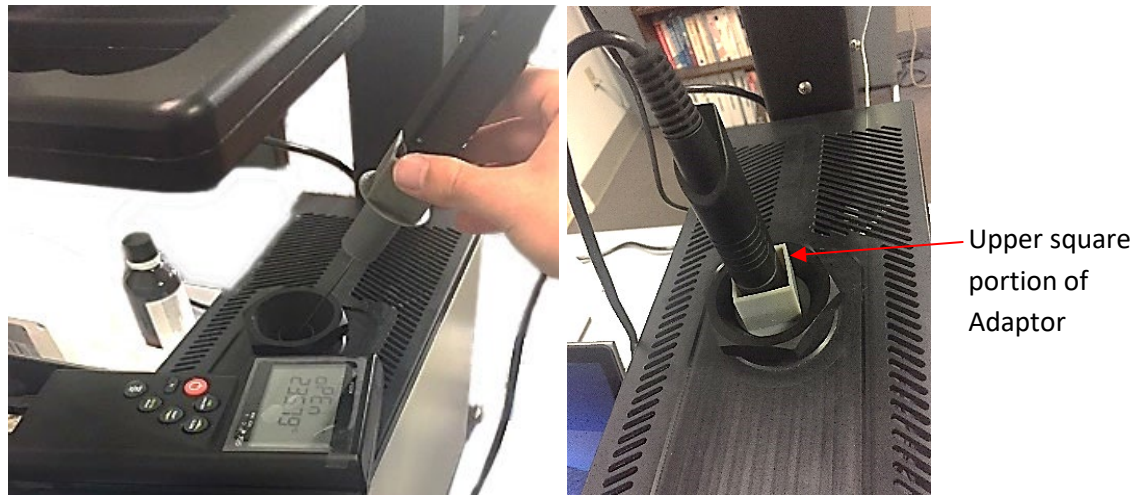

Figure 47: Inserting the Thermometer Probe into the Test Tube
- a. Holding the thermometer adaptor, gently lower the thermometer probe into the test tube until only the upper square part of adaptor is visible. Be cautious to not bump the Head Unit while placing the probe. Refer to Figure 47.